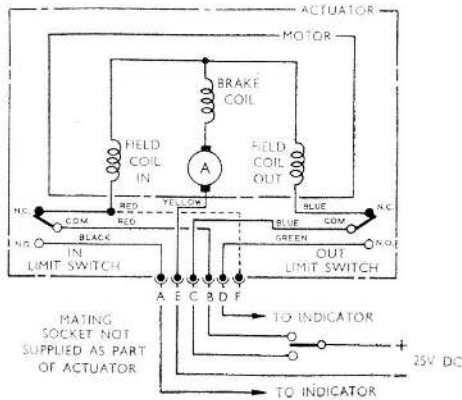

Fig. 4. Circuit diagram
15. The internal connections and a typical external circuit are shown in Fig. 4.